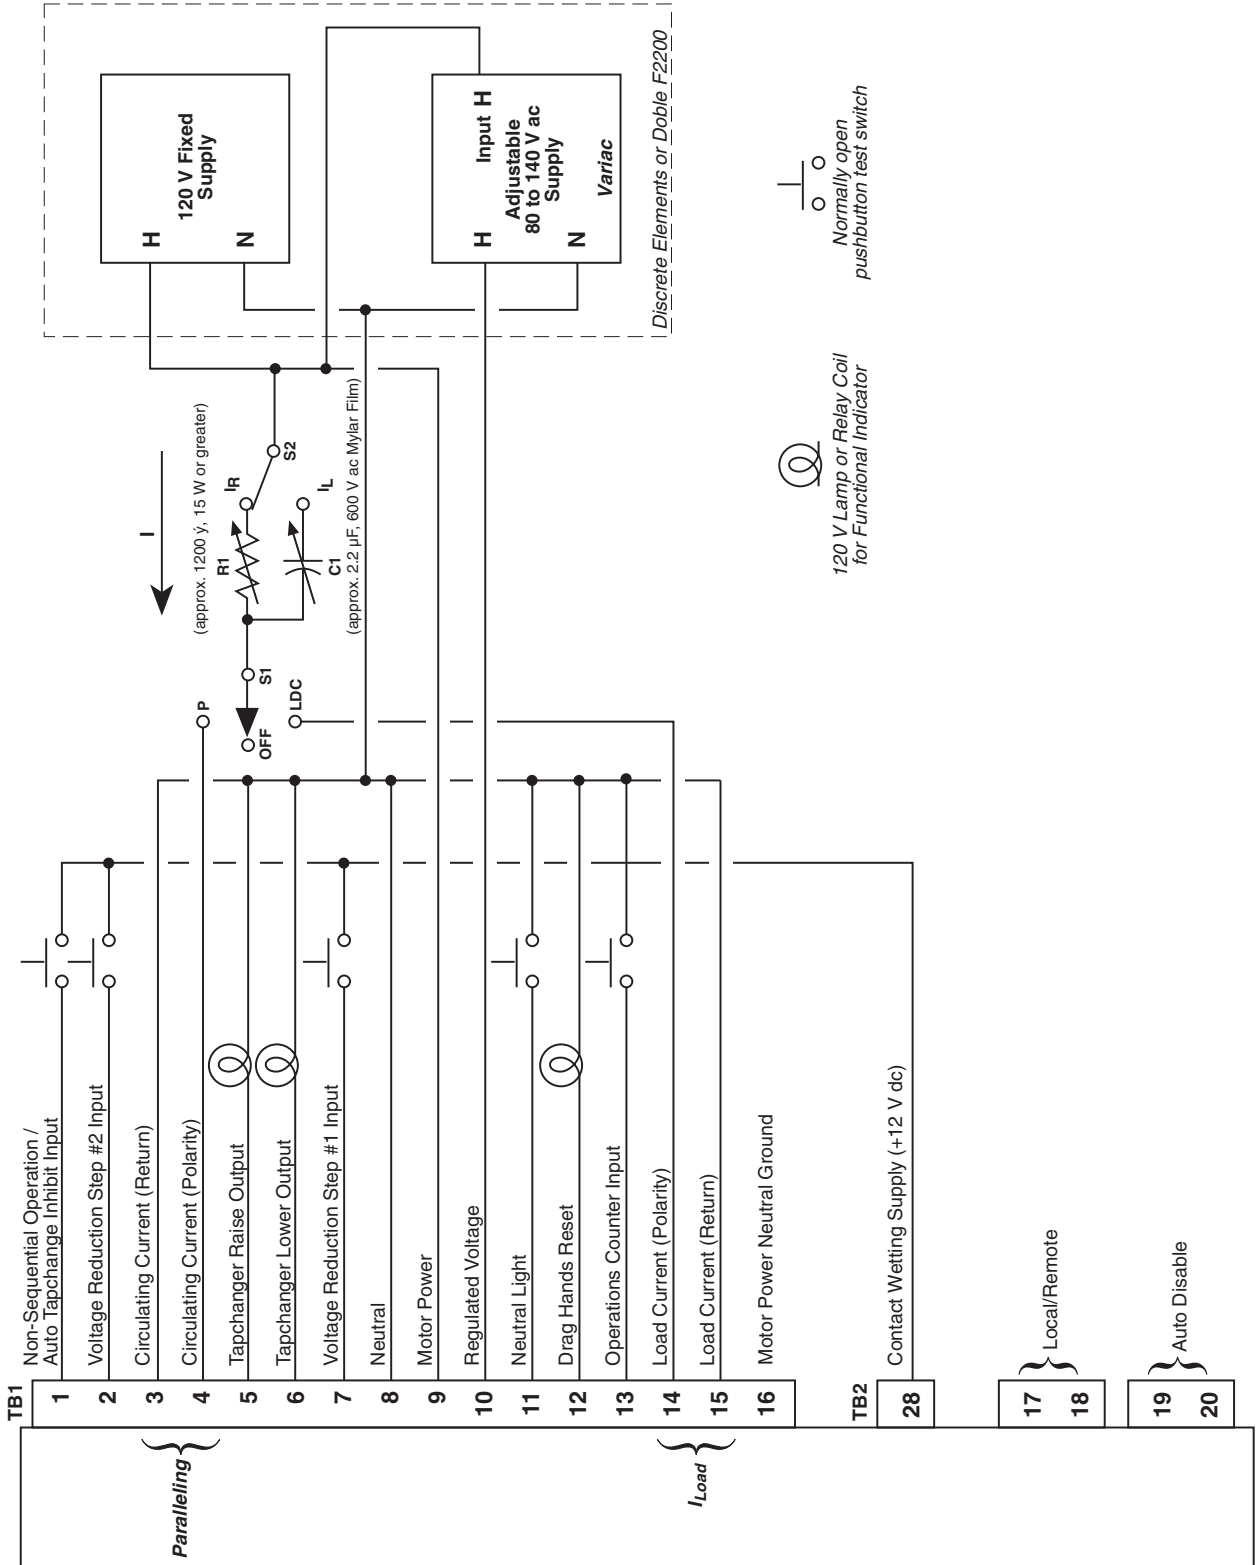
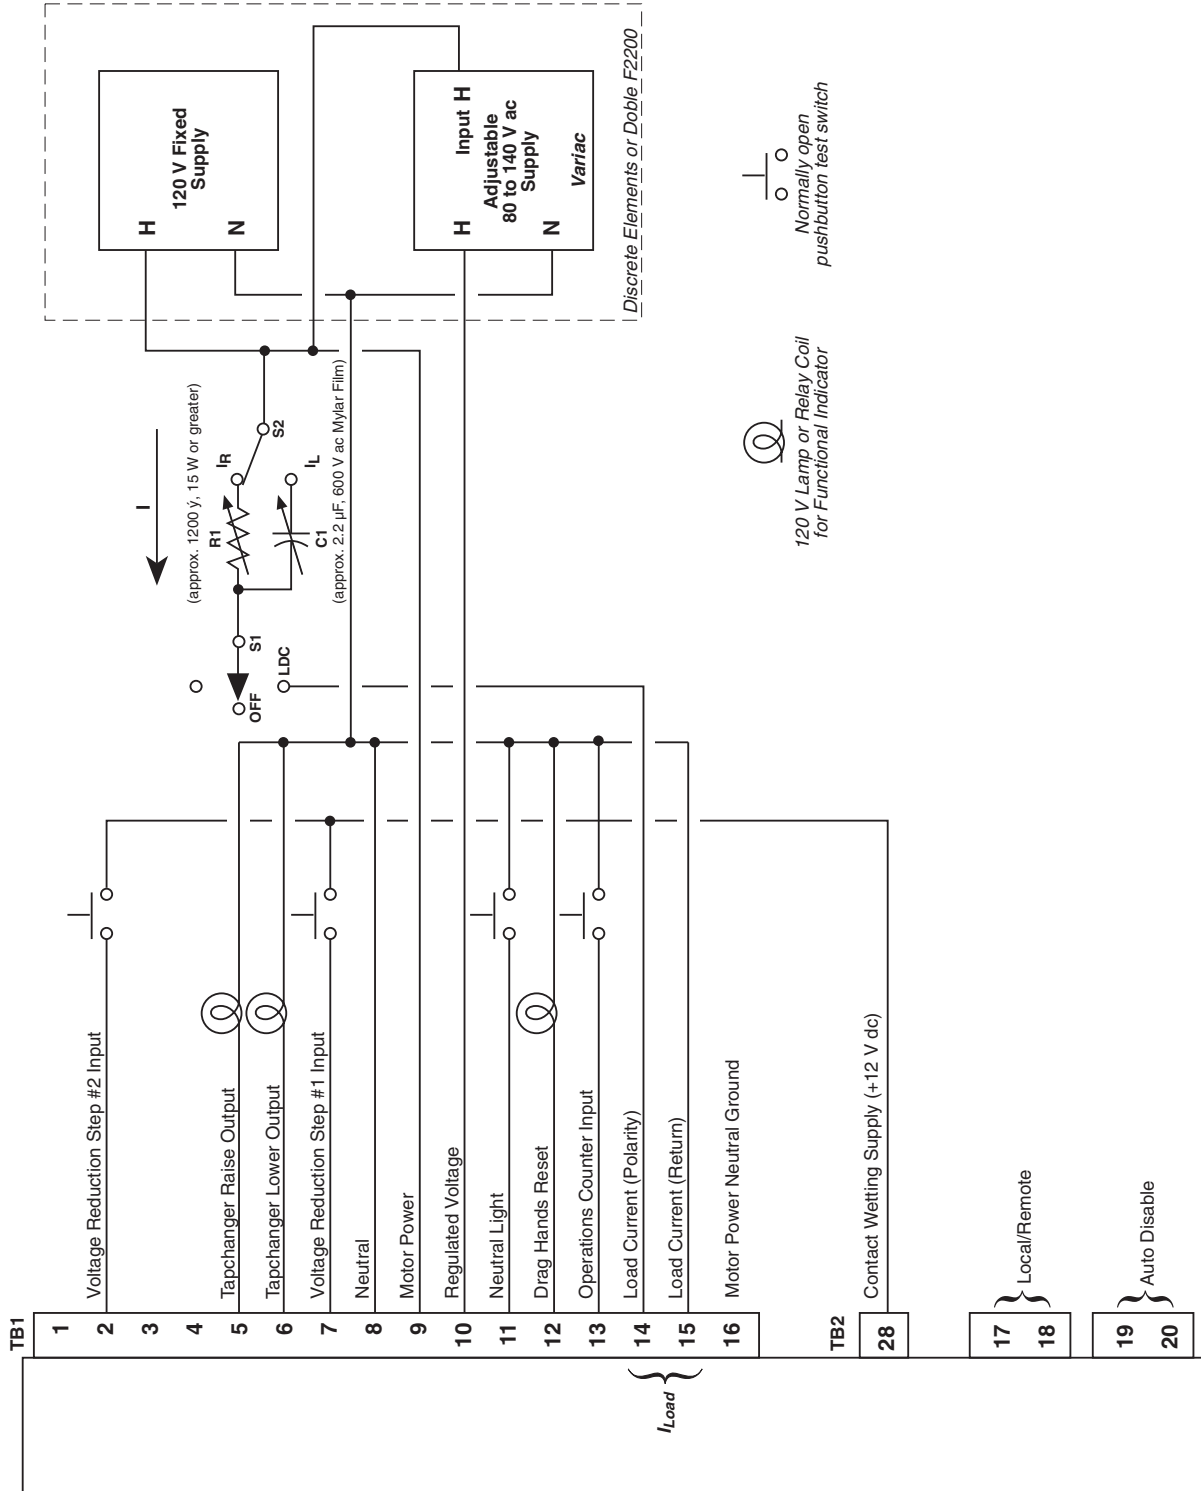

Figure 11 M-2264B Test Procedure External Connections (Comprehensive or BASE-T Version)
Figure 12 M-2264B Test Procedure External Connections (BASE-R Version)
- a. If testing an M-2001 Series Tapchanger Control other than a M-2001C BASE-R Version, then make electrical setup connections as described in Figure 11, M-2264B (Comprehensive or BASE-T Version) Test Procedure External Connections.
- b. If testing a BASE-R M-2001C then make electrical setup connections as described in Figure 12, M-2264B (BASE-R Version) Test Procedure External Connections.
2. Set S_1 to LDC and S_2 to I_R (Figure 11, or Figure 12, for BASE-R version).
2. Set S_1 to LDC and S_2 to I_L (Figure 11, or Figure 12, for BASE-R version).